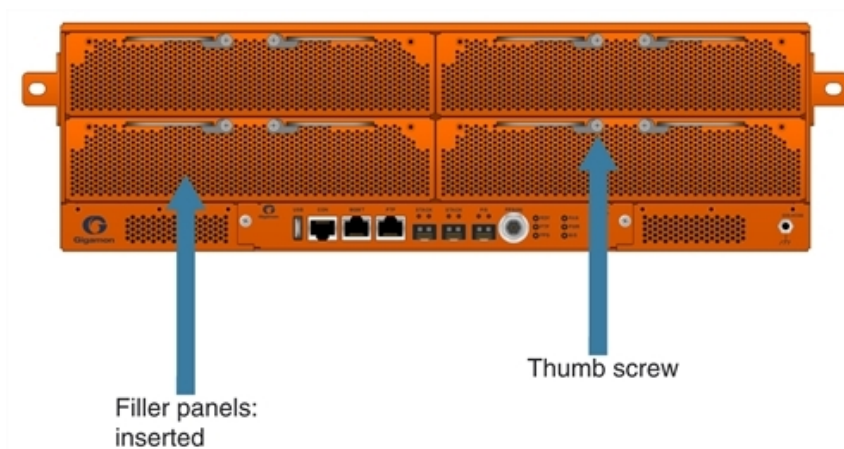

Figure 7 *Filler Panels Inserted*
3. Locate the protective filler panels in the bays. Refer to Figure 7 Filler Panels Inserted.